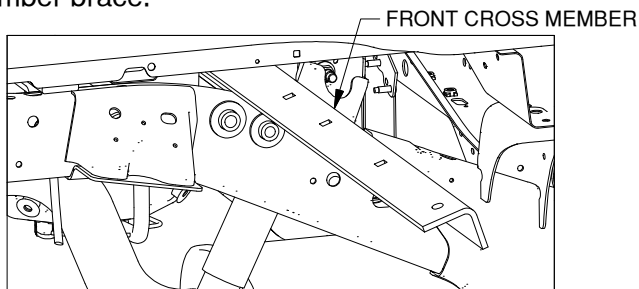

Figure E1: Looking into passenger side wheel well.
- 1. Place front cross member.** Locate the front cross member and position it on the passenger side of the truck, see Figure E1. The cross member will resemble an upside down "V". The flange with the holes will be toward the rear of the truck. Slide the front cross member between the bed and the frame in front of the center section until it spans the driver and passenger frame rails. Move cross member towards the front of the truck to make room to install the front cross member brace.